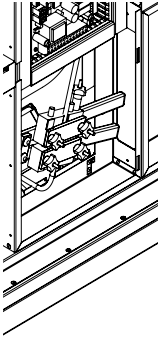

Fig. 14-3
- Weld the ends of the belt using a welding paddle and clamp. (see Fig. 14-3, 14-4)